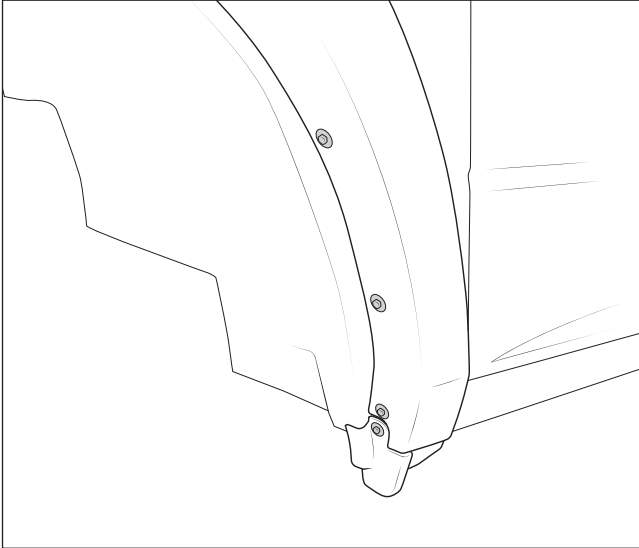

Figure 1
3. Remove four factory bolts from the fender flare and SAVE (fig. 1).